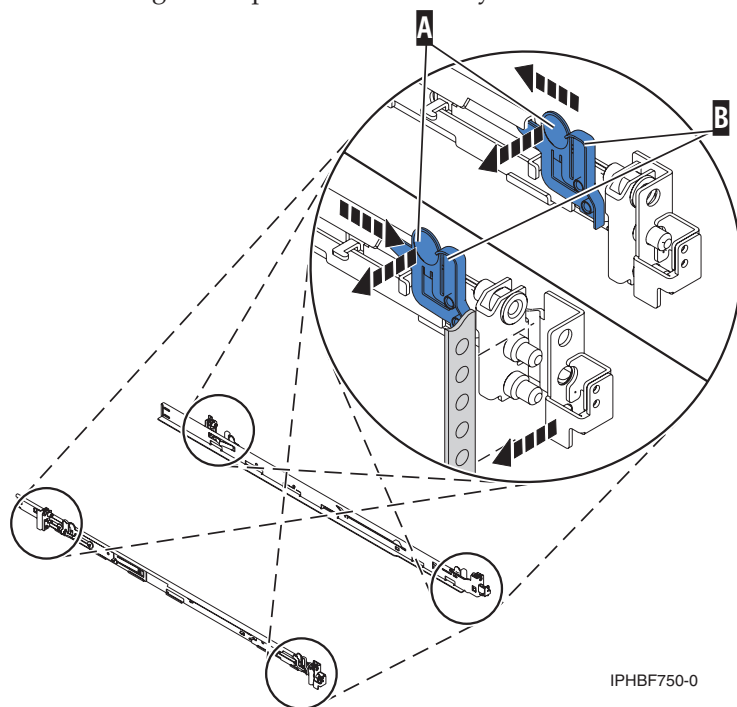

Figure 92. System rail assembly setup
1. Set the system rails to allow correct assembly with the rack and system unit. Refer to Figure 92.
5. From the back of the rack, insert the back-alignment pins (Figure 92) into the hole at the back of the rack identified by the self-adhesive placement dot that you previously installed. Have a second person hold the rail securely in the back hole.
6. Press the release tab **A** (Figure 92 on page 91) to extend the back-alignment pins into the back of the rack. Ensure that the pin passes through the correct hole in the rack frame.
8. Press the release tab **A** (Figure 92 on page 91) to extend the two front-alignment pins into the front of the rack. Ensure that the pins have passed through the correct holes in the rack frame.